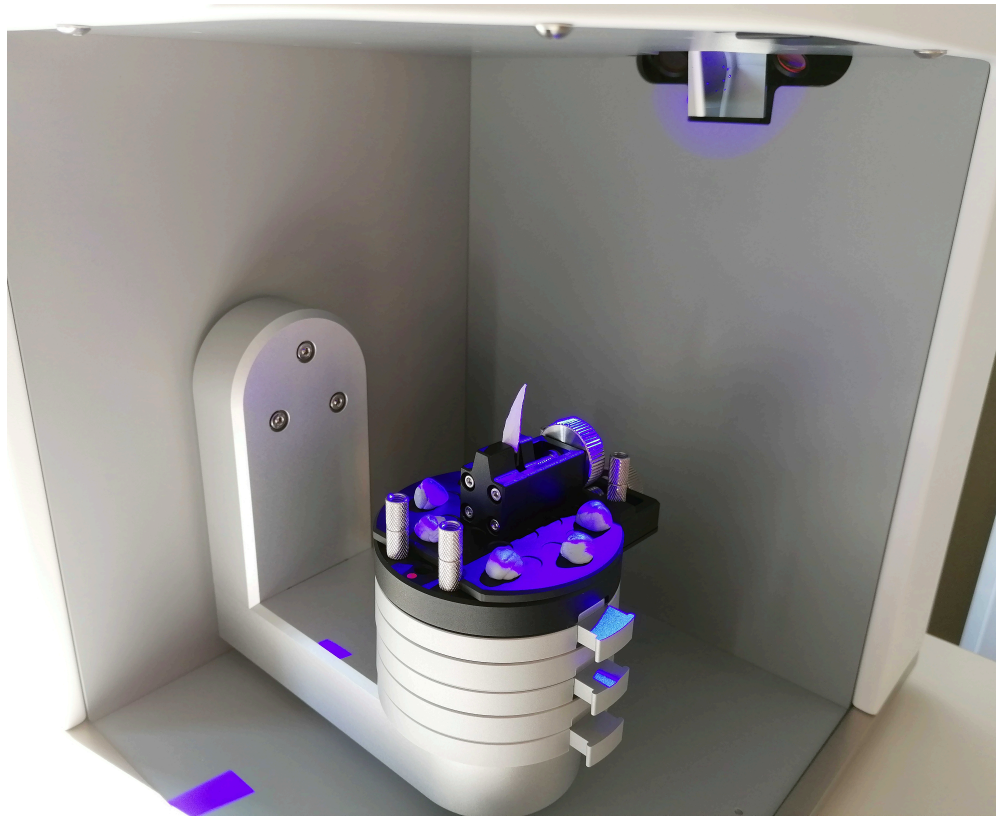

Fig. 4. The scanning setup used in this example.
- 4 Use the magnetic locks of the *Screw Jig* to attach the object to the spacers (Fig. 4).